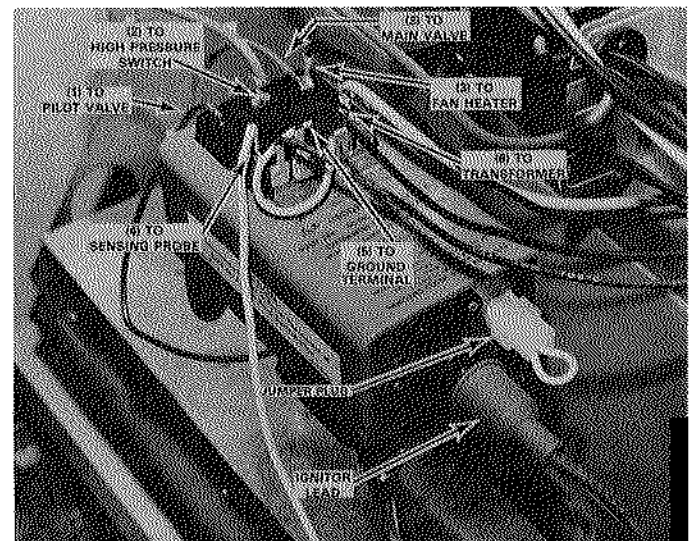

**FIGURE 10**
**a - Pilot Assembly (Figure 10)**